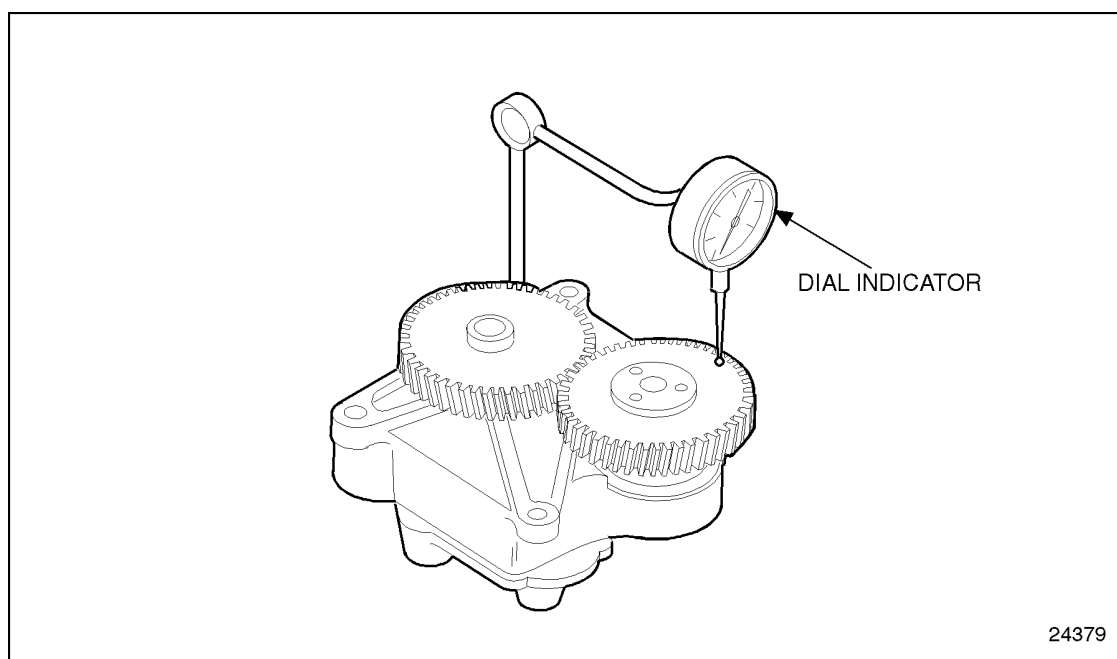

Figure 3-9 Gear Run-out Measurement
2. With a dial indicator mounted on the pump mounting surface, rotate the gear and check the gear run-out. See Figure 3-9.